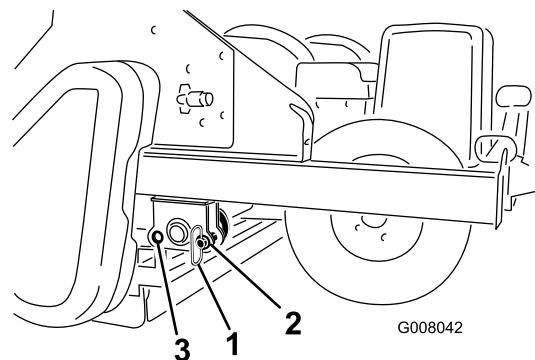

Figure 20
7. Remove the storage pins from the front hole position and insert into the rear hole position during operation (Figure 20).